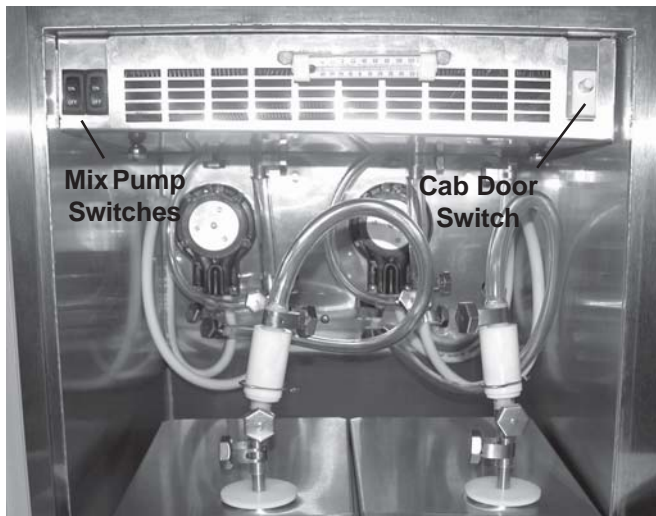

Figure 21. Refrigerated Cabinet
- C. Place the mix pump switch in the ON position. The mix pump switch is located in the upper left hand corner, inside the refrigerated cabinet (see Figure 21). Immediately open the spigot and let approximately 8 ounces of liquid mix with sanitizing solution drain out of the spigot.